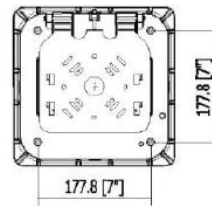

Figure 14
3. Drill four corresponding holes in the mounting surface. Use the drilling patterns shown in Figures 14 and 15, below.